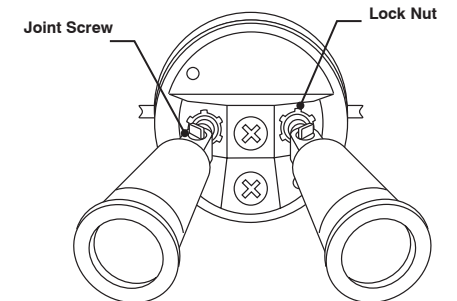

Figure 6.
1. Loosen lock nut and elbow screw on lamp holder before making any adjustments. Do not use excessive force when making adjustments to lampholder (See Fig. 6).